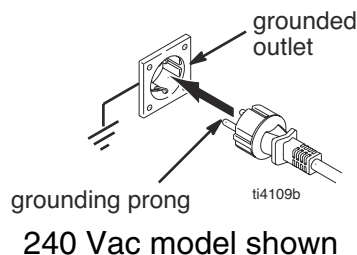

FIG. 1
- Fig. 1. 220-240 Vac models require a 50Hz, 16A circuit with a grounding receptacle. 100-120 Vac models require a 50/60 Hz, 16A circuit with a grounding receptacle.